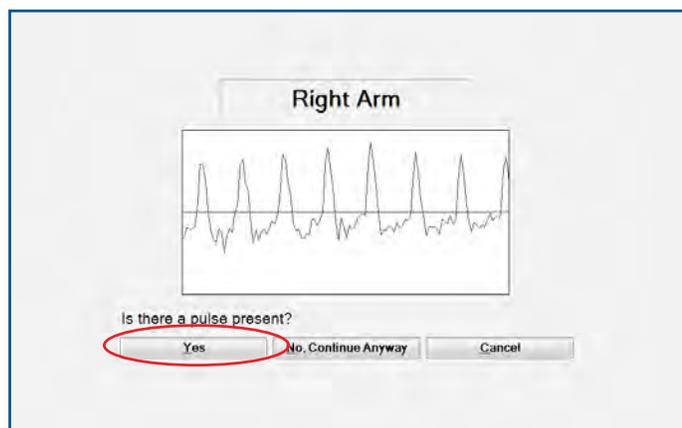

FIGURE 1.14 - Right Arm - Pulse Confirmation
14. When recording arm pressures, the software will first display a reading from the PPG probe on the finger and ask for confirmation of a pulse (Figure 1.14).